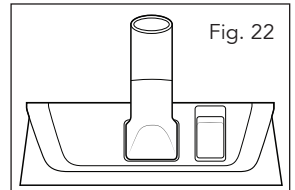

Fig. 22
The dual-purpose floor nozzle (25) is for vacuuming solids and liquids over medium to large areas (Fig. 22).